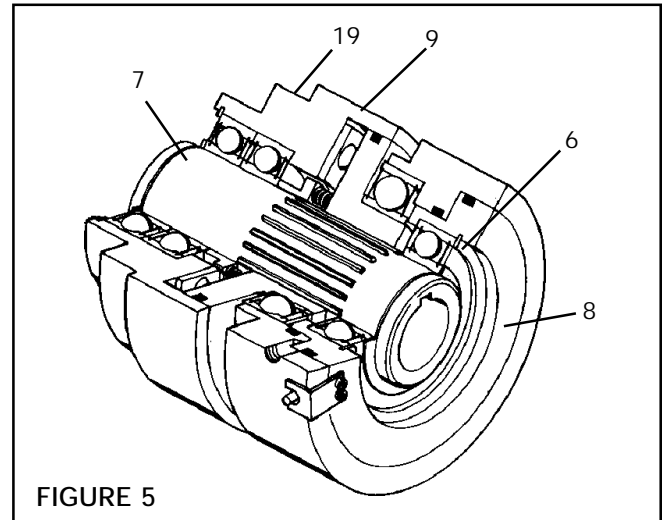

FIGURE 5
3. Remove Retaining Ring (Item 6) from Hub (Item 7) on Piston (Item 8) end of DC Series Clutch (See Fig. 5).
5. Supporting Cylinder (Item 9), press Hub (Item 7) and Drive Flange (Item 19) end of Torque DC Series Clutch clear of cylinder end of DC Series Clutch (See Figs. 5 & 6).